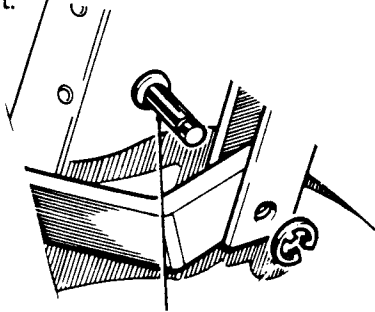

Fig M3.1
- (2) Refer to Fig M3.1. Disconnect the prop rod.
- (3) Raise the bonnet to the vertical position.